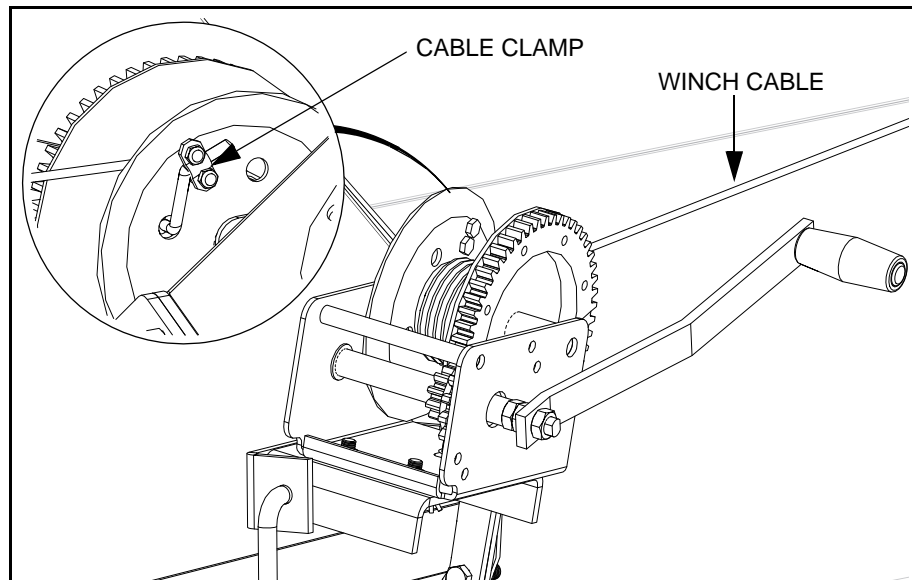

Figure 3.43 Connecting Winch Cable to Spool
7. Wrap the cable over and around the winch spool at least three times, then insert the cable end through the hole provided in the side of the spool and secure the end with the provided cable clamp (Figure 3.43).